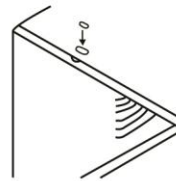

Fig.6
9. Add two foam inserts to the holes where the shipping screws were removed at the top of the unit. (Figure 6)